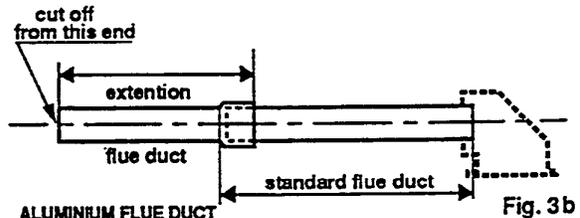

Fig. 3b
- Measure wall thickness (T).
- Add 74 mm. this will give required length (L).
- Mark plastic air duct for length (L) and cut off surplus (from plain end).
**N.B.** If extension sections are used ensure these are firmly pushed together, see figs. 3b and 3c and a fall of 5 mm per metre length should be provided (see section 4.3).
- Measure from external wall face to centre line of STERLING SB and subtract 37 mm (this will give required length (L)).